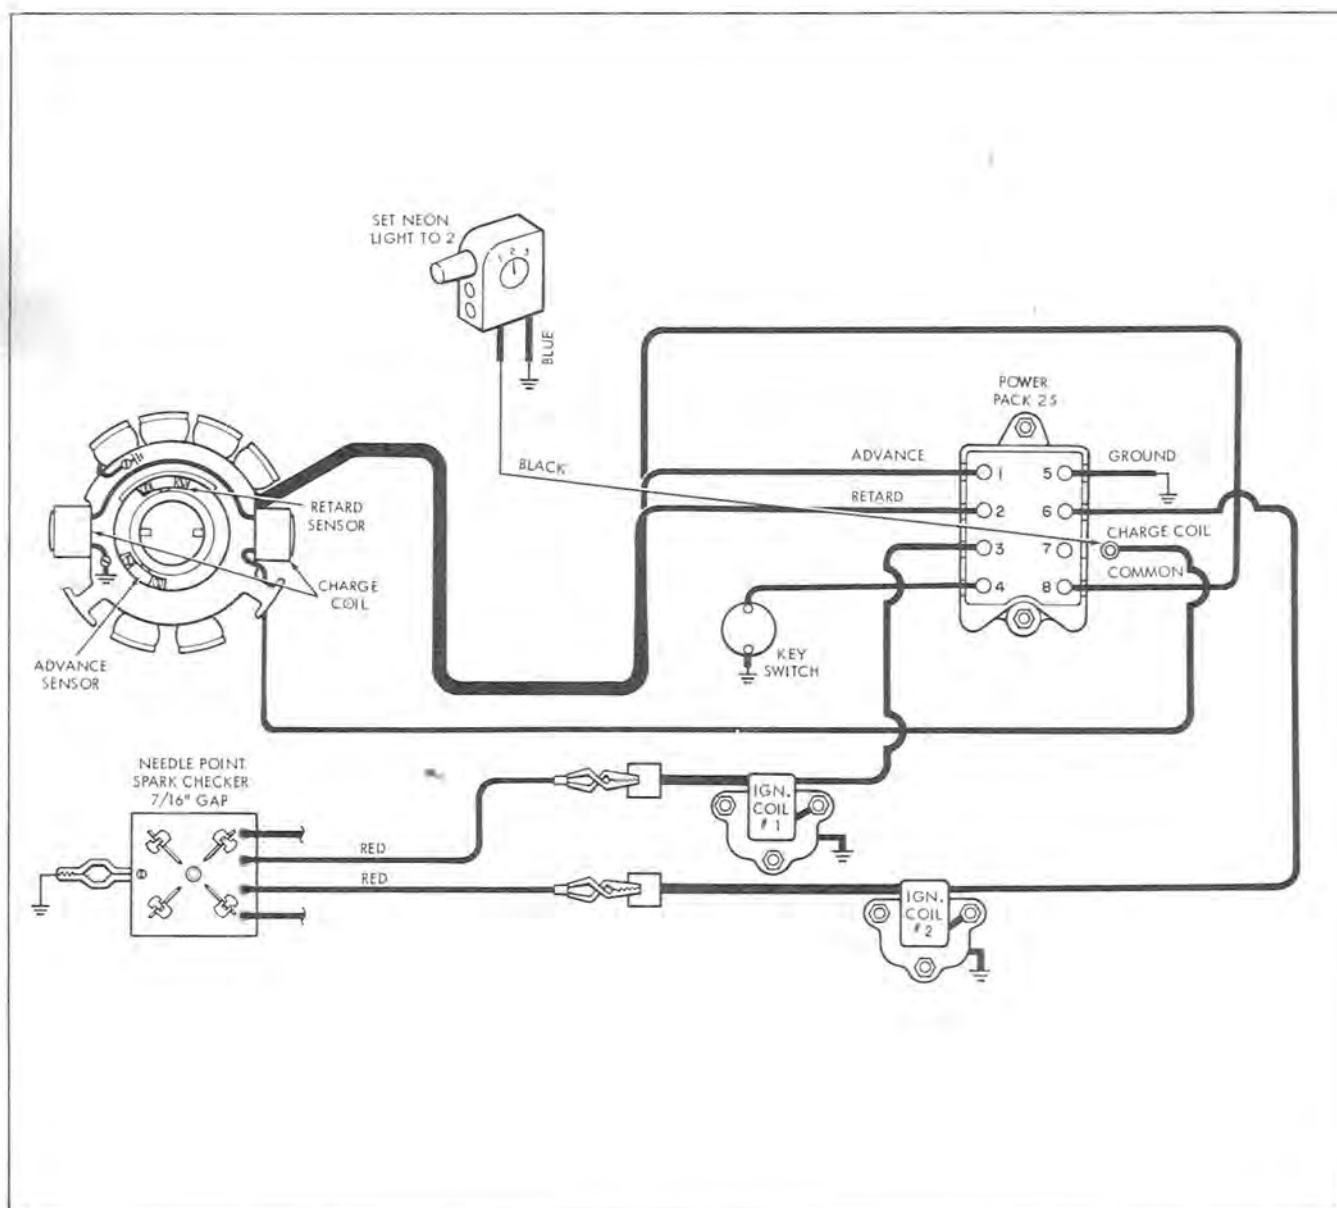

Figure 7-14
- A. Use neon tester S80 or M80. Connect neon tester black lead to Power Pack charge coil terminal #7 brown/white stripe lead and tester blue lead to engine ground. See Figure 7-14.